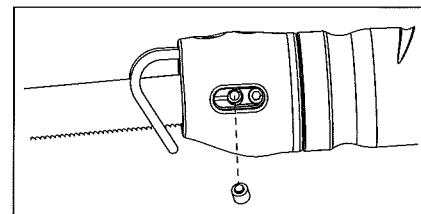

Figure 3: Set Screw Alignment
6. Tighten the front-most set screw to 15-20 in-lbs. If you are using a 6" blade, this set screw must align with the hole in the saw blade. (fig 3)